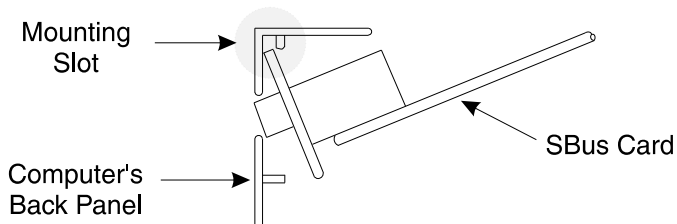

Figure D-22: SBus Card Mounting Slot — Side View
6. Hook the card in the mounting slot located above the rectangular openings in the back panel. Figure D-22 shows a side view of how the card should hook into the mounting slot.